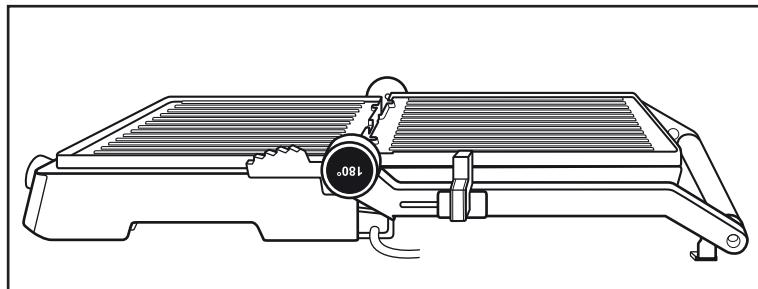

Fig. 2
- 3) The hotplates ⑩ are now positioned next to each other and can be used as a table grill (Fig. 2).